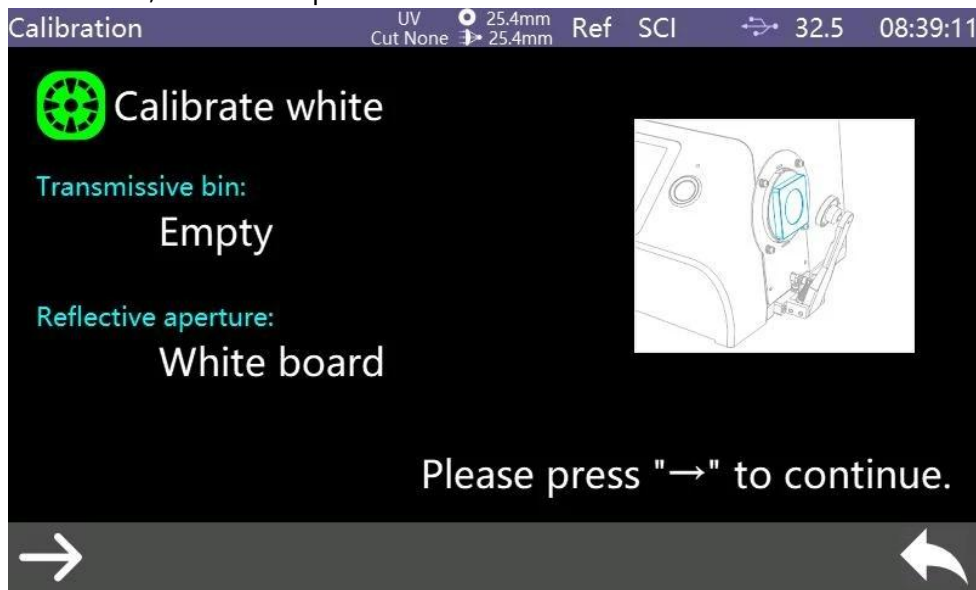

Figure 6
4. It will automatically enter White Calibration after Black Calibration is finished as shown in Figure 6. Place well white plate (same steps as how to place black cavity), then press test key to start white calibration, or click to quit the white calibration.